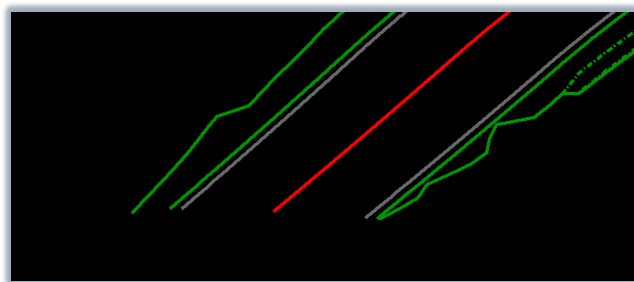

Figure 8 – End of a corridor's template drop
- iv. **Note: where a corridor's template drop terminates, this gap does not need to be closed. See Figure 8.**